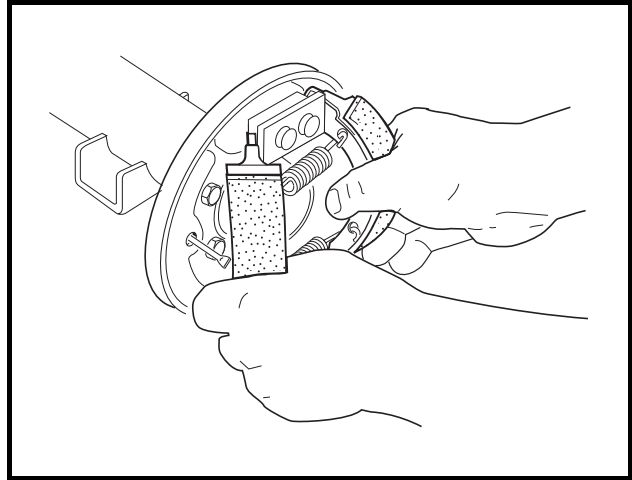

Figure 6-5 Remove Shoes
7. Grasp both brake shoes and pull them, with the springs, out of brake assembly (**Figure 6-5, Page 6-3**).